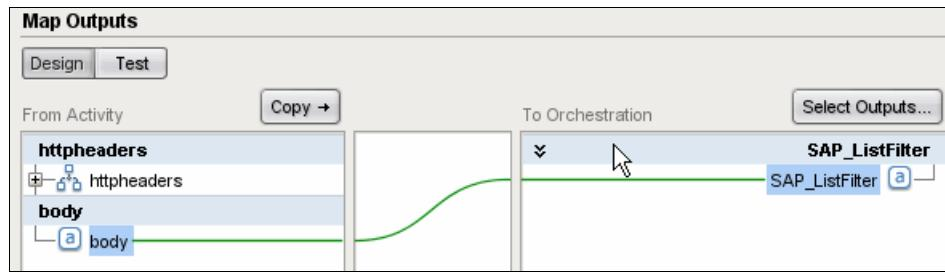

Figure 10-53 Map HTTP body to SAP_ListFilter
- Map the body from the activity to SAP_ListFilter, as shown in Figure 10-53 on page 389.